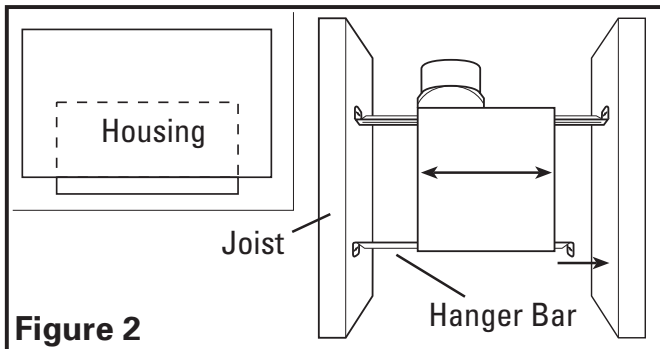
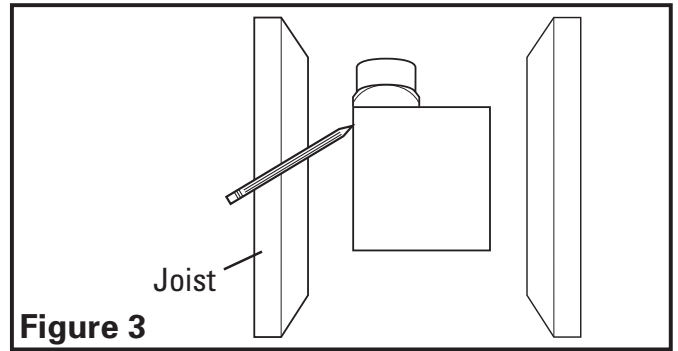

Figure 2
Figure 3
1. Install the side rails on the housing and position the housing next to the joist. Line up housing so that it will be flush with the finished ceiling. Secure the ends of the rails with screws or nails (not included) to the joists and slide the housing into the final position (**Figure 2**).
1. Set housing in position between the joist and trace an outline onto the ceiling material (**Figure 3**). Set housing aside and cut opening, being careful not to cut or damage any electrical or other hidden utilities. Install the side rails on the housing and position the housing in the previously cut hole so that it is flush with the finished ceiling. Secure the ends of the rails to the joists (**Figure 2**).